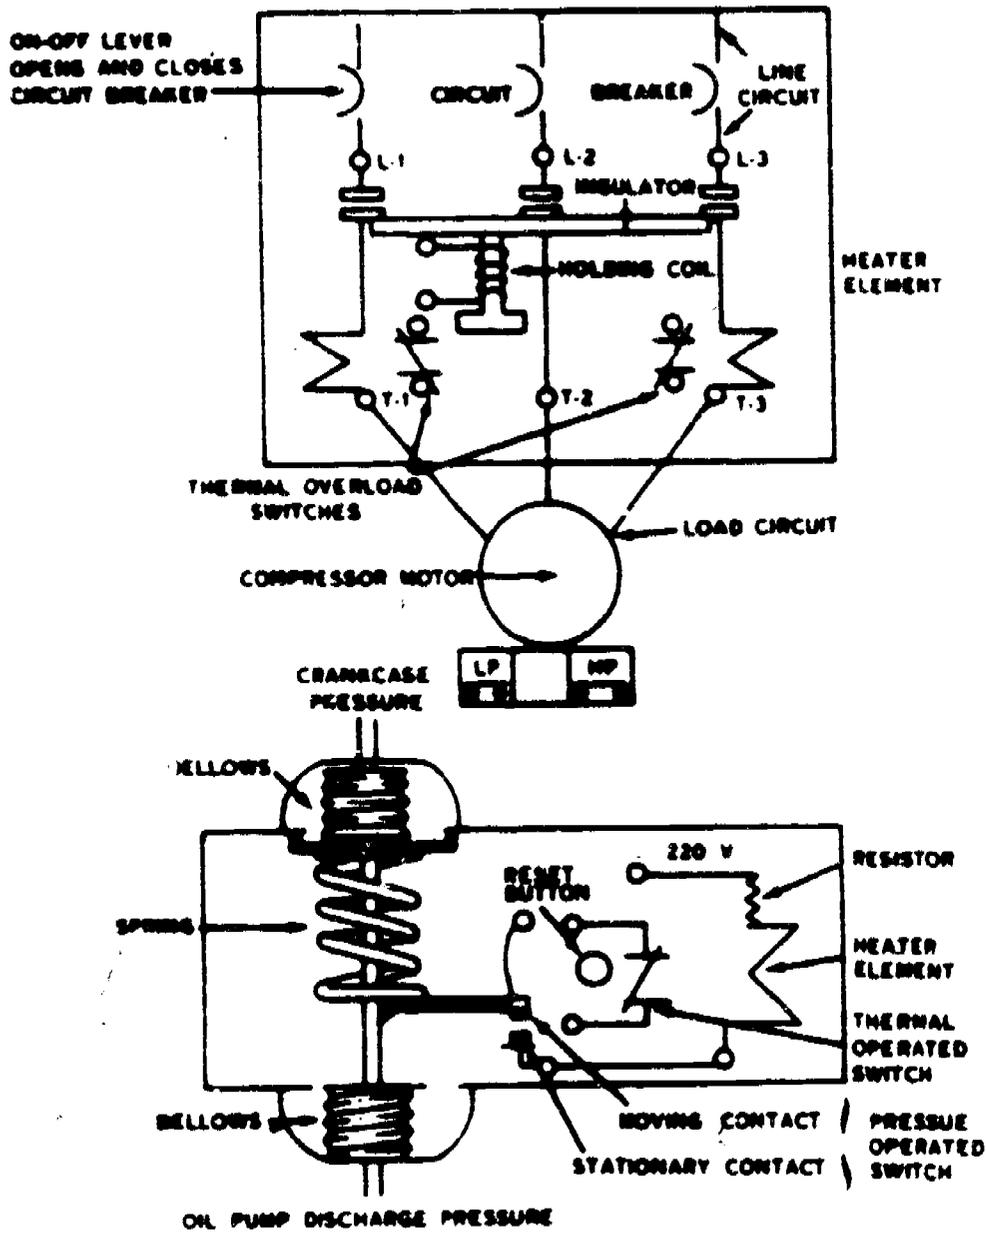

Figure 3. Control Circuit and Pressure Operated Circuit
1. Use a red pencil and connect the units in figure 3 of the control circuit in series.
2. Use a blue pencil and connect the units in figure 3 of the pressure operated circuit in series.